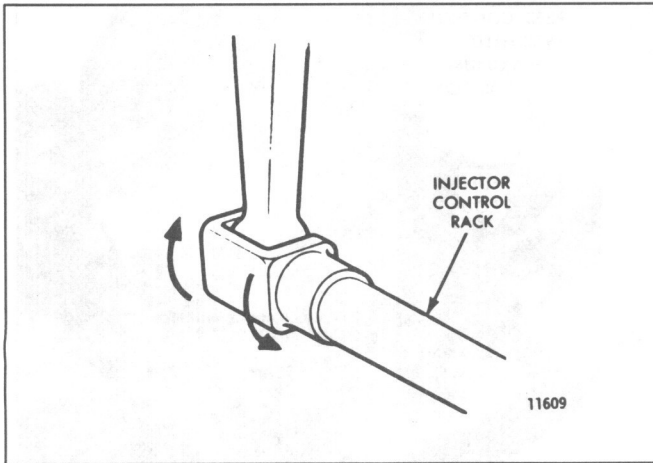
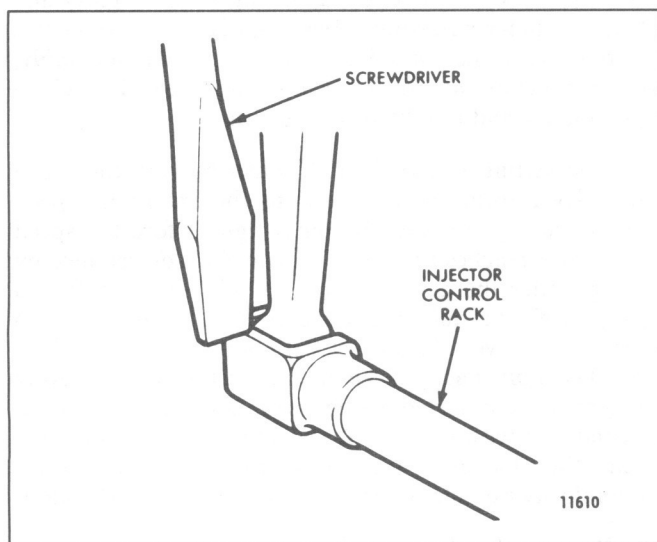

Fig. 10 – Checking Rotating Movement of Injector Control Rack
Fig. 11 – Checking Injector Control Rack "Spring"
- To be sure of the proper rack adjustment, hold the speed control lever in the *maximum speed* position and press down on the injector rack with a screwdriver or finger tip and note the “rotating” movement of the injector control rack (Fig. 10). Hold the speed control lever in the *maximum speed* position and, using a screwdriver, press downward on the injector control rack. The rack should tilt downward, and when the pressure of the screwdriver is released, the control rack should “spring” back upward (Fig. 11).